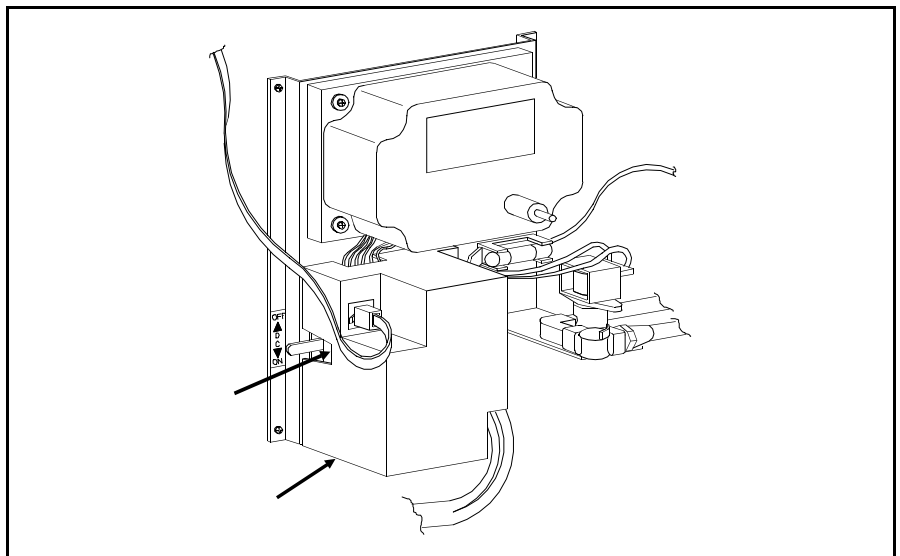

Figure 5.25 Storage Switch Location
9. Be sure the storage switch is in the down position as shown in Figure 5.25. (original and third versions)